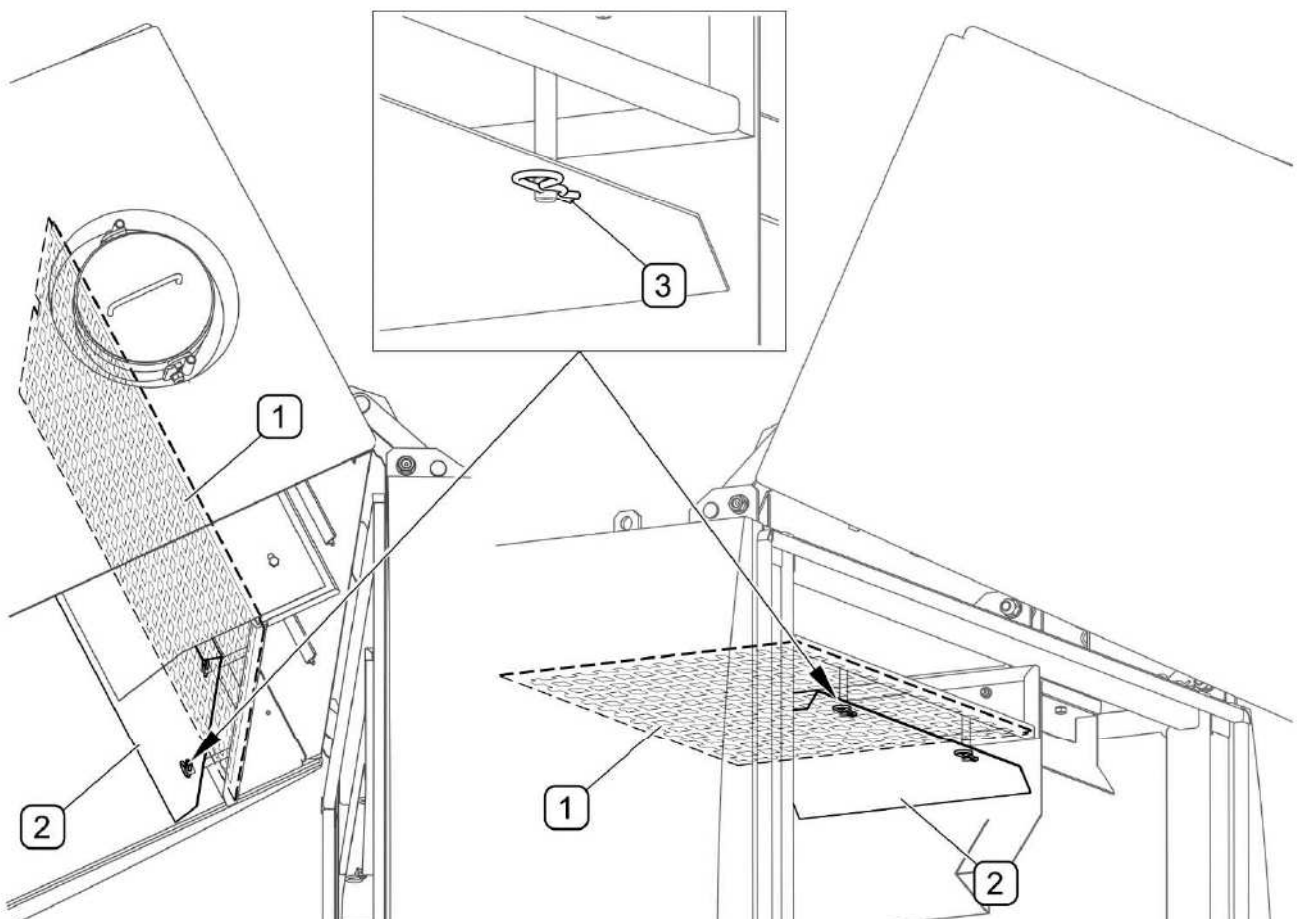

FIG. 5.32 Meshes in the waste tank
Cleanness of meshes in the waste tank (FIG. 5.32) should be checked periodically. Access to the meshes is possible after opening the waste tank. The waste tank in open position should
be secured with the supports (FIG. 5.3). In order to assist access to meshes (FIG. 5.32) it is recommended that shields (2) should be dismantled after removal of securing cotter pins (3). Clean meshes with water jet under pressure. After cleaning, install shields (2) and secure them with cotter pins (3). Make certain that the bows of shields installed are facing downwards. The waste tank seals are recommended to be cleaned each time after emptying the waste tank. Before closing the waste tank remove supports installed earlier (FIG. 5.3).